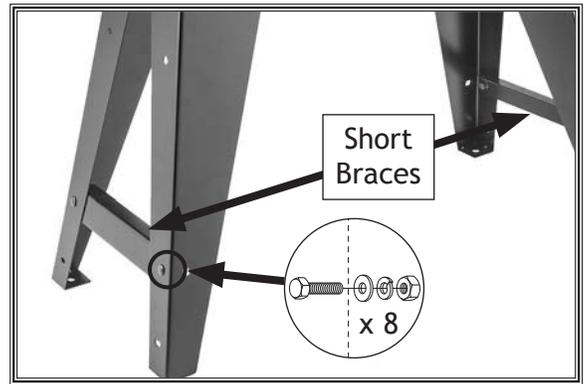

Figure 6. Short braces attached to legs.
4. Attach short brace to legs with (4) M8-1.25 x 16 carriage bolts, (4) 8mm flat washers, (4) 8mm lock washers, and (4) M8-1.25 hex nuts (see **Figure 6**).